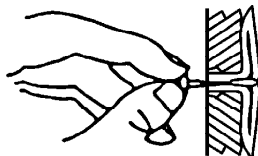

Figure 10 - Popping Open Anchor Wing For Thin Walls
4. For thin walls (1/2" or less), insert red key into wall anchor. Push red key to "pop" open anchor wings. (see Figure 10)